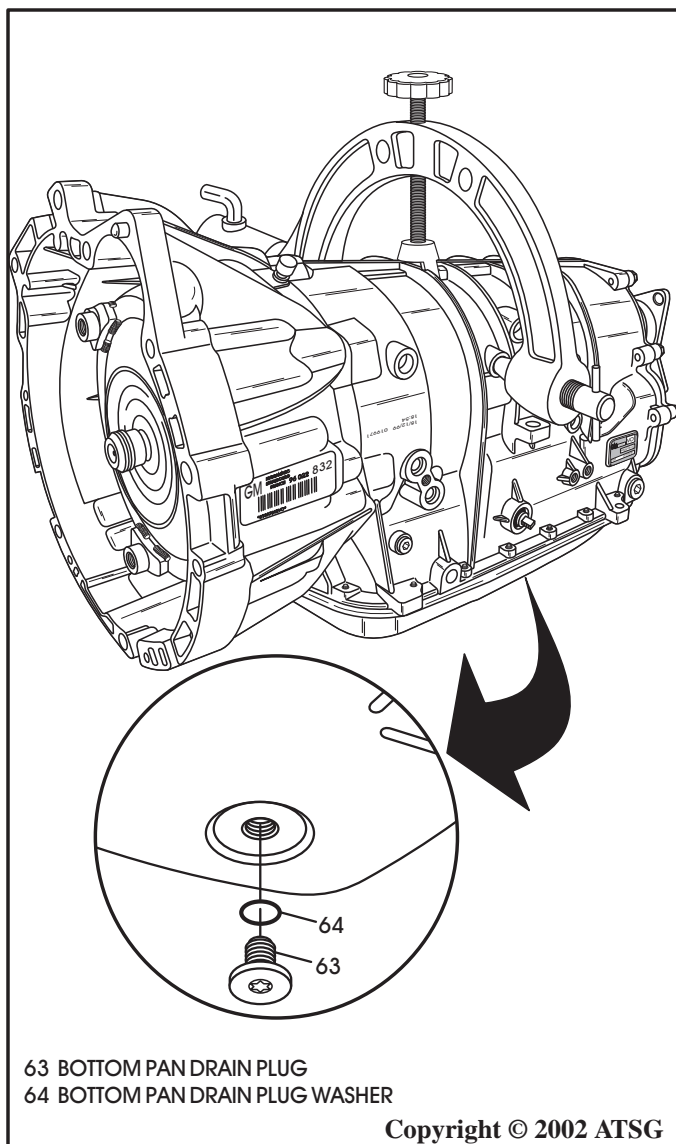

Figure 28
4. Remove the drain plug from the bottom pan, as shown in Figure 28, and allow fluid to drain.